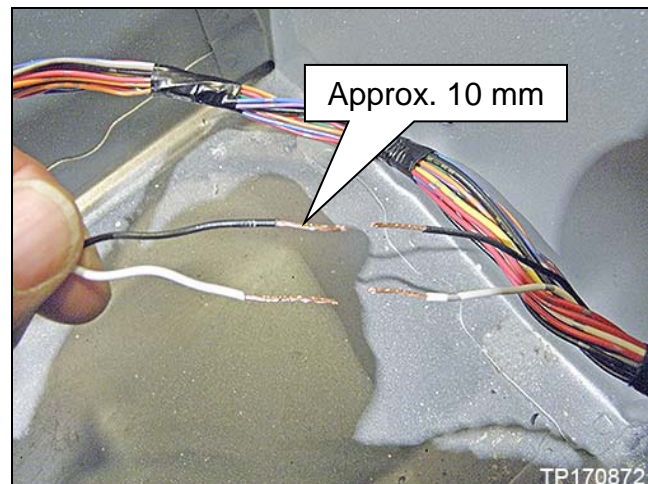

Figure 55
47. Strip approximately 10 mm (about 3/8 inch) of insulation from the wires that will be attached. See Figure 55.